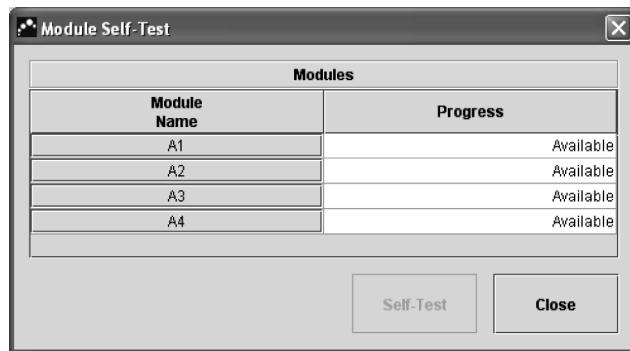

Figure 10-6. Module Self-Test dialog box
3. On the Maintenance menu, click Perform Self-Test. The Module Self-Test dialog box appears (Figure 10-6).